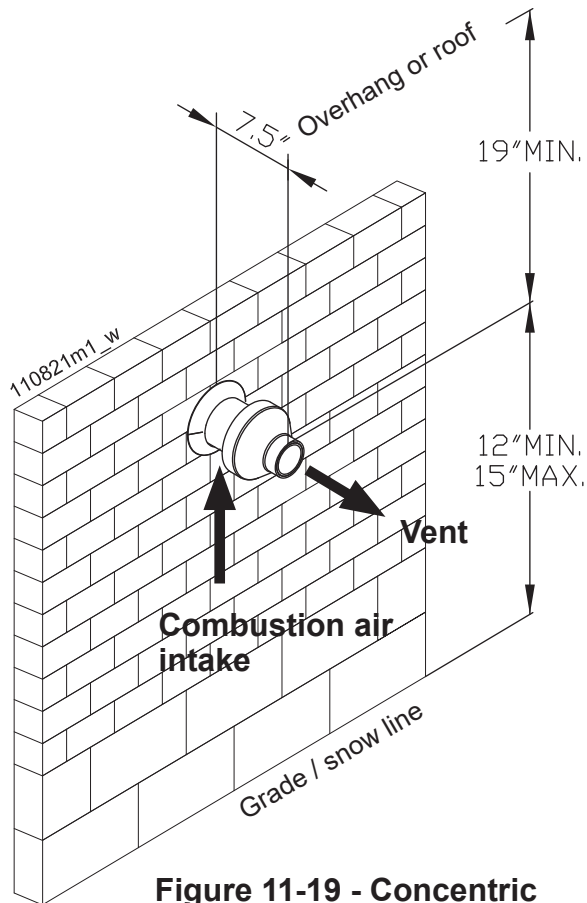

Figure 11-19 - Concentric sidewall termination clearances
The termination kit must terminate outside the structure and must be installed as shown in Figure 11-19.
- 1.- Determine the best location for the termination kit (see Figures 11-19 and 11-20);
- 4.- Cut one (1) hole 5 inch diameter into the structure to install the termination kit;
NOTICE! Ensure termination location clearance dimensions are as shown in Figures 11-19 and 11-20.